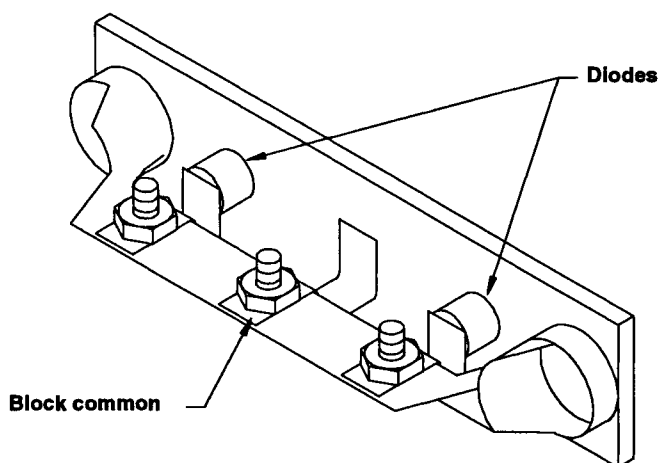

Figure 22 - Diode block
- 9** Measure DC voltage from the diode block common (see Figure 22) to the fuse assembly. If not equal to battery voltage, the wires to the batteries are bad.